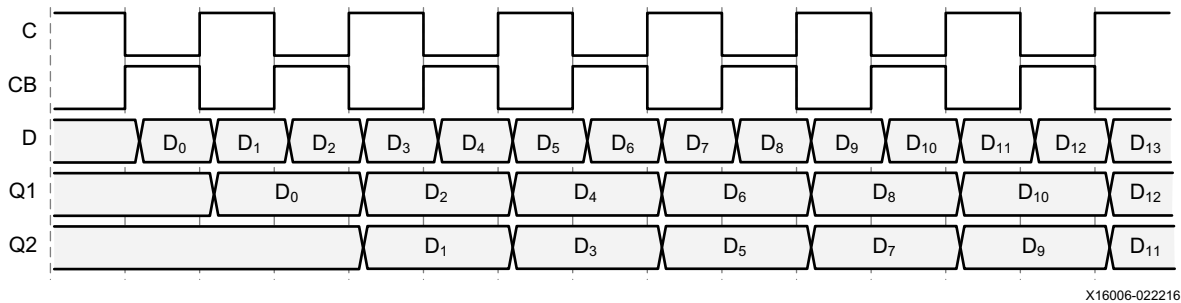

Figure 2-5: Input DDR Timing in SAME_EDGE Mode
In SAME_EDGE mode, the data is presented into the device logic on the same clock edge. Figure 2-5 shows the timing diagram of the input DDR using the SAME_EDGE mode. In the timing diagram, the output pairs Q1 and Q2 are no longer (0) and (1). Instead, the first pair presented is pair Q1 (0) and Q2 (don't care), followed by pair (1) and (2) on the next clock cycle.